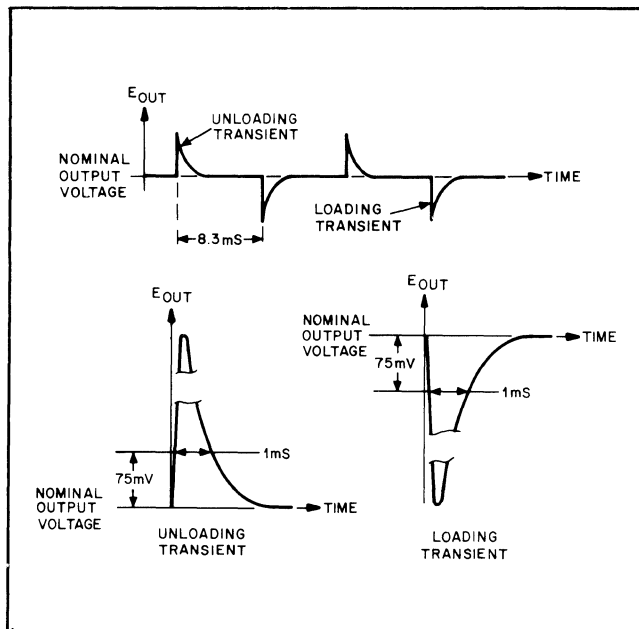

Figure 5-6. Load Transient Recovery Waveforms
n. Starting from the major graticule division representing time zero, count to the right 1mS and vertically 75mV, recovery should be within these tolerances as illustrated in Figure 5-6.